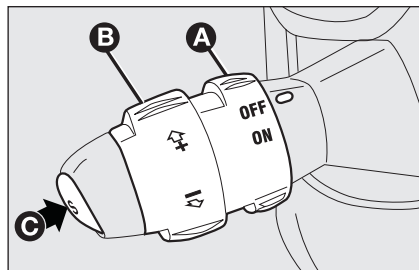

fig. 54
Turn knurled ring **A**-fig. 54 to **ON**.
- ☐ turn the knurled ring **A**-fig. 54 to **ON** and press the accelerator pedal to the required speed;
- ☐ press button **C-fig. 54**.
- ☐ turning the knurled ring **B-fig. 54** temporarily to (+).
- ☐ keeping the knurled ring **B-fig. 54** to (–) until reaching the new speed which will be memorised automatically.
Turn the knurled ring **A-fig. 54** to **OFF** or the ignition key to **STOP**. The device is automatically deactivated also in one of the following cases:
*In the event of device malfunction or failure, turn the knurled ring A-fig. 54 to OFF and contact a Fiat Dealership after checking the protection fuse integrity.*